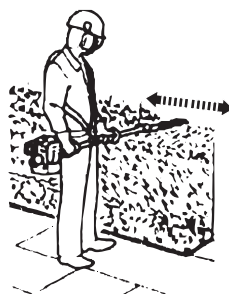

Fig. 14
11. Cut in a number of stages to achieve a better result rather than trying to cut in one go if the area being cut is particularly long (Fig. 14); smaller cuttings will allow for easy composting.